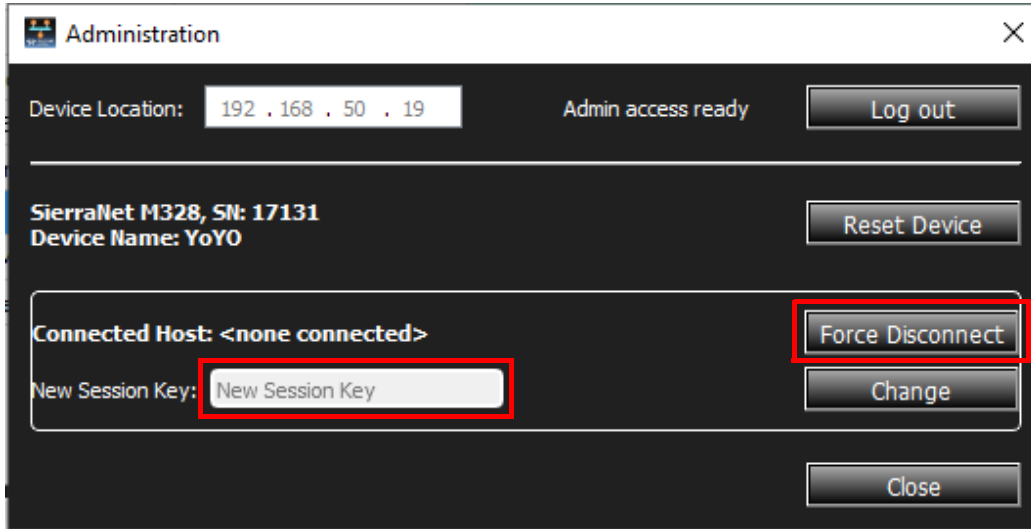

Figure 2.60: Administration Dialog Box – Forced Disconnect Successful
- ❑ A pop-up box appears confirming you were successful (Figure 2.60).